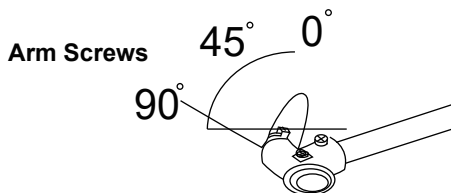

Fig.12
- Rotate the fan head and aim the arm screw at the desired angle (There are only three angles available: 0°, 45°, 90°. They are labelled on the motor part) (Fig.12)